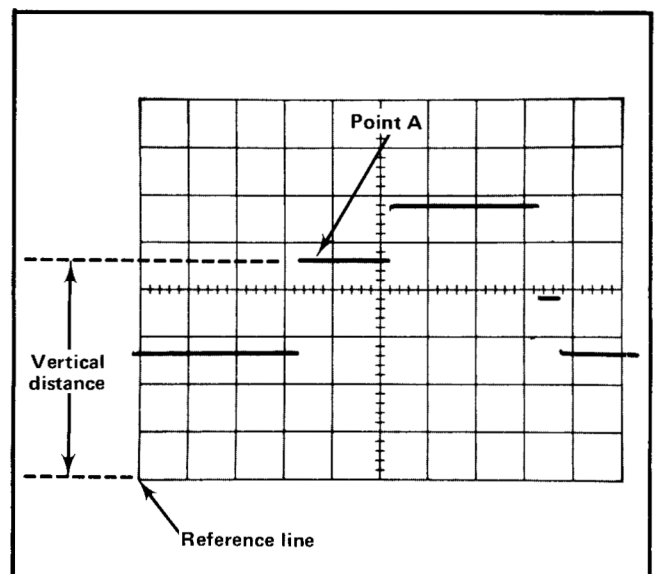

Fig. 2-18. Measuring instantaneous DC voltage with respect to a reference.
9. Measure the distance in divisions between the reference line and the point on the waveform at which the DC level is to be measured. For example, in Fig. 2-18 the measurement is made between the reference line and point A.
Example. Assume that the vertical distance measured is 4.6 divisions (see Fig. 2-18), the waveform is above the reference line, using a 10X attenuator probe and a VOLTS/DIV setting of 2.